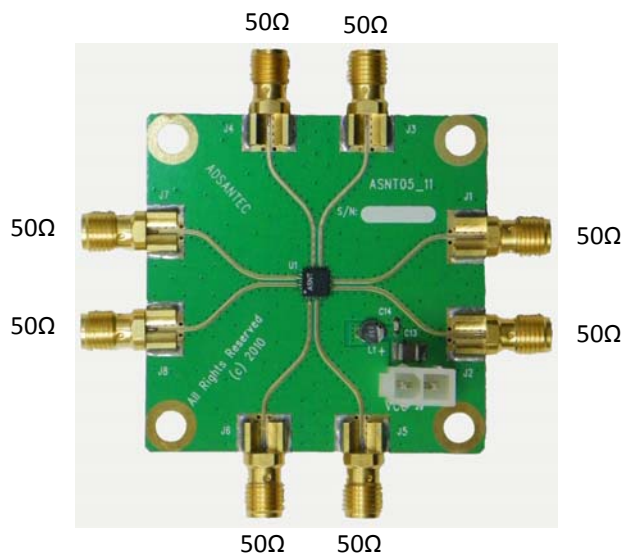

Fig. 5. Impedance of I/O Connectors
- Measure the resistance of all connector pins to VCC, including the power supply, while making sure the board is grounded. All I/O ports should measure 50 Ω s while on the power supply connector, VCC should be a short, and GND should be high impedance. Fig. 5 shows the resistance values of the described I/O connectors.